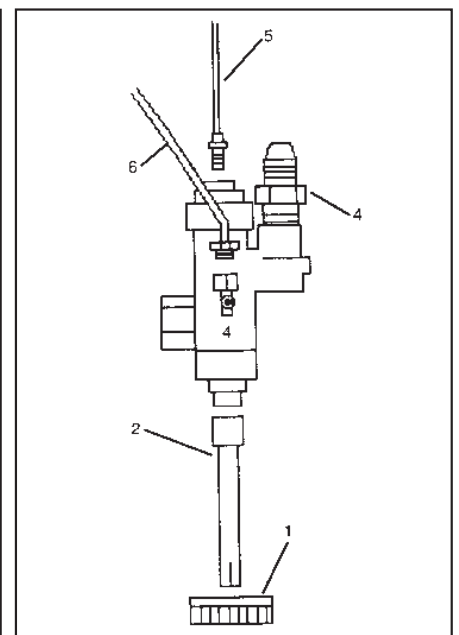

Figure 2
- C. Attach the 3/8" straight Flared Fitting (Part #4) to the Gas Control Valve using pipe compound. (See Figure 2)
- D. Attach Pilot Gas Supply Line (Part #6) and the Thermocouple Lead (Part #5) to the Gas Control Valve. Attach valve extension rod (Part #2) to knob and control valve. (See Figure 2)